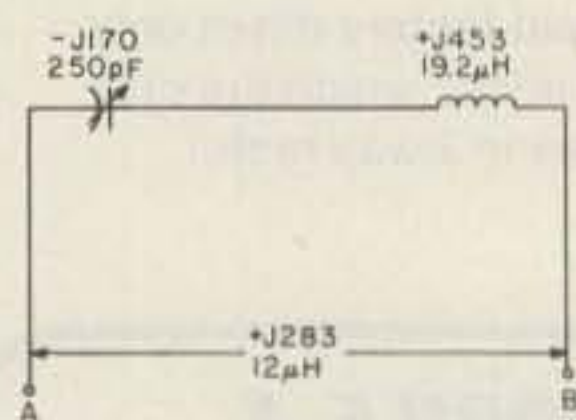

Fig. 1.
Now all we have to do is to draw the simple circuit shown in Fig. 1, where we take our variable con-
Calculating the value of the fixed inductance in microhenrys, we find it to be $L = X_L / (2)(\pi)(F) = 453 / (2)(3.14)(3.75) = 19.2$ microhenrys. This value of inductance is also shown in Fig. 1.